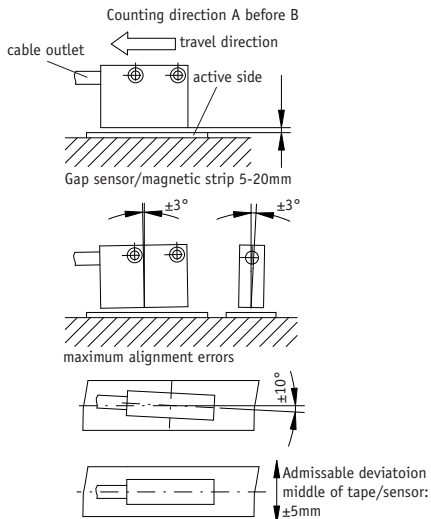

Fig. 8: Definition of counting direction / mounting
- **Sensor must be aligned correctly with respect to the counting direction (see fig. 8).** This can be ignored if counting direction can be changed via the follower electronics (e.g. by magnetic display units from SIKO).
- When mounting the magnetic sensor, ensure that the gap between strip & sensor and the max. admissible deviation are maintained over the total measuring length (see fig. 8)!